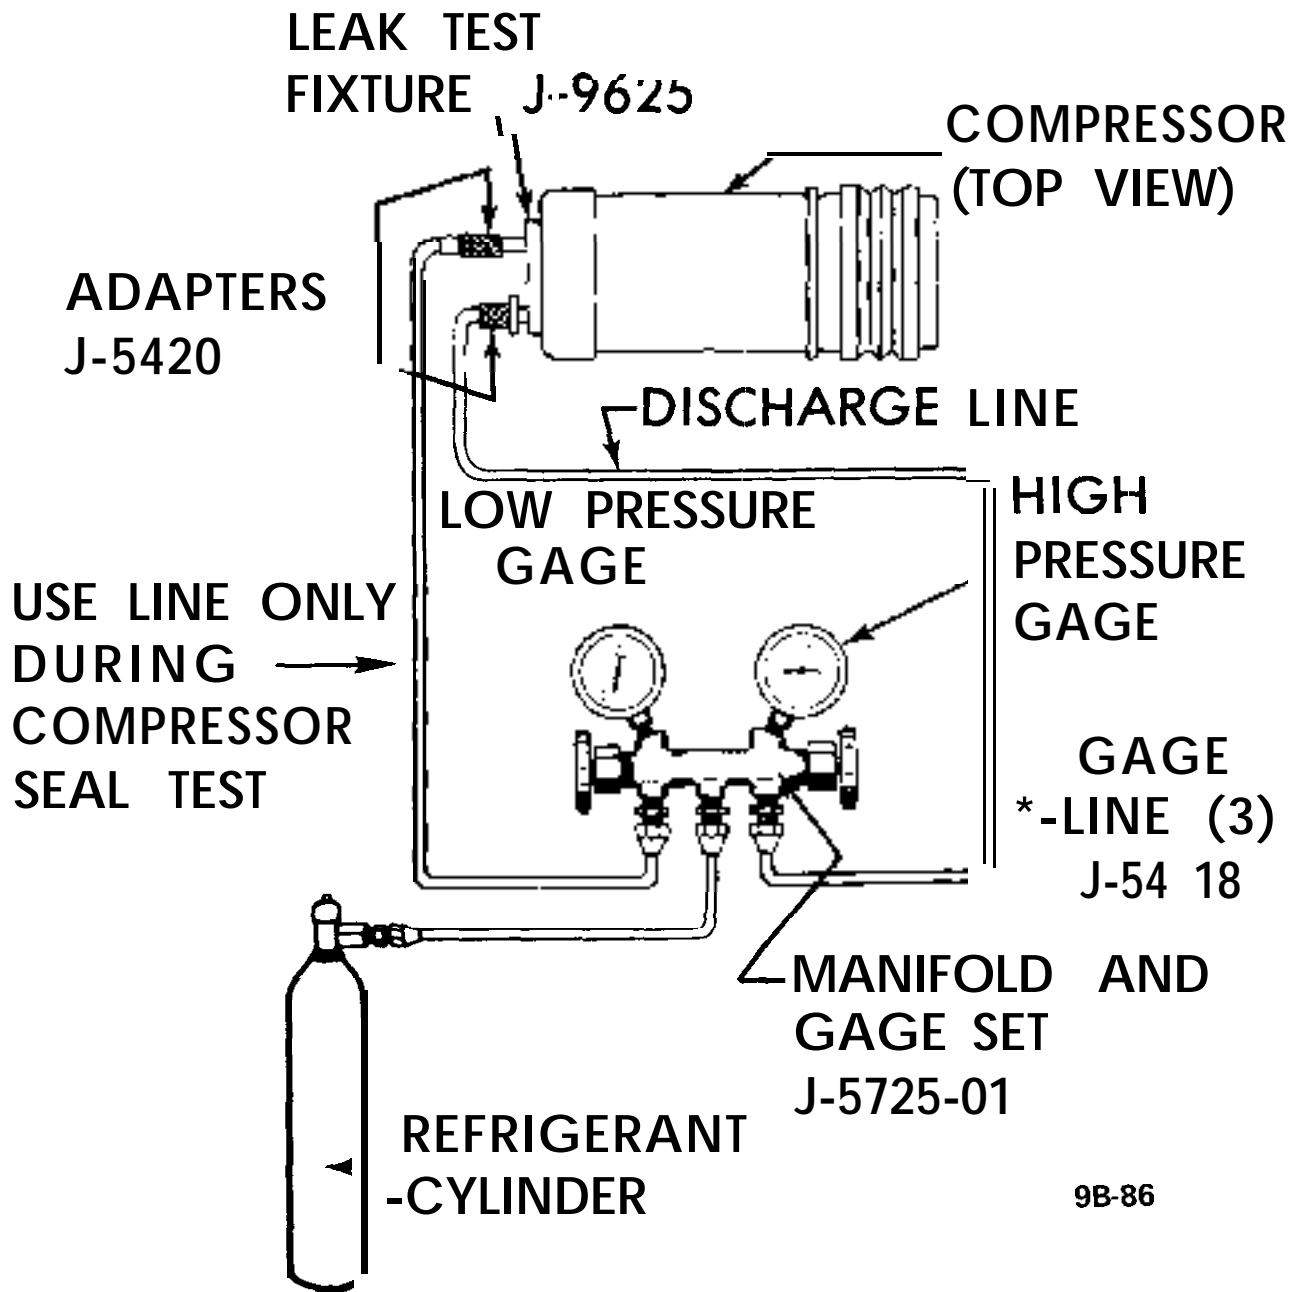

Figure 9B-112 Leak Testing Shaft Seal and Seal Seat O-Ring
9. Insert woodruff key into hub of clutch drive plate so that it projects out approximately  $3/16$  inch (see Figure 9B-113) and position clutch drive plate onto shaft.